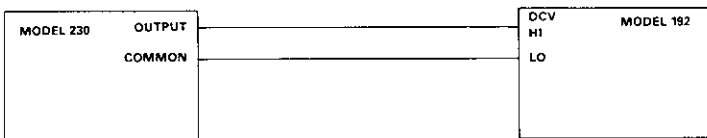

Figure 5-2. 100mV to 100V Calibration
10. Set up the test circuit as shown in Figure 5-2.